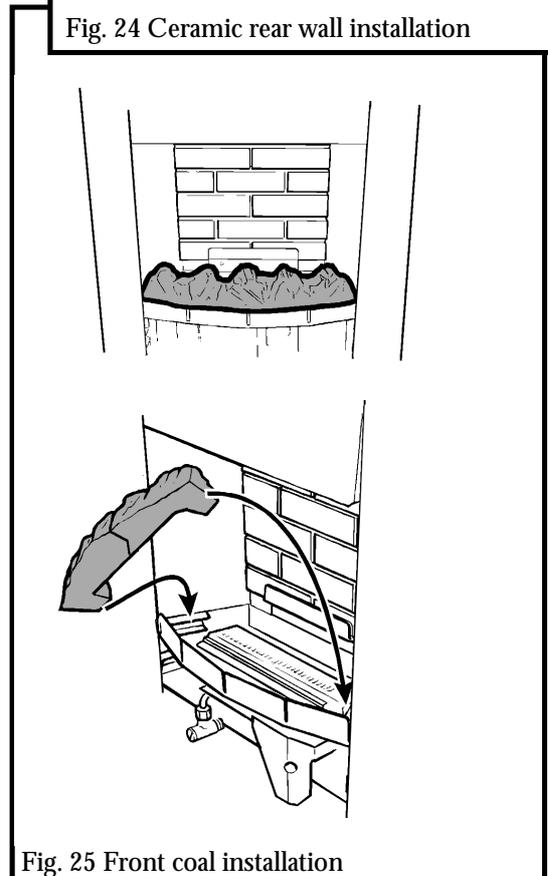

Fig. 25 Front coal installation
10.2 Place the two halves of the front base coal in the burner compartment so that they rest on the ledges at the sides and front. Pull the coals forward so that they are immediately behind the front rim of the burner compartment (See figure 25).